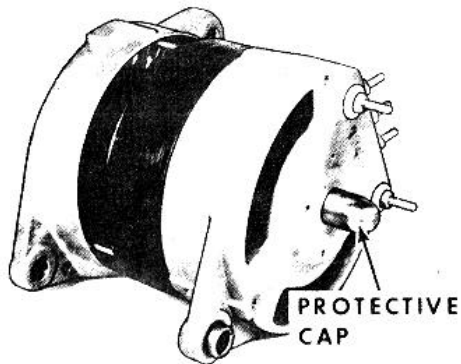

FIG. 26
16. Install the slip ring housing assembly over the rotor and drive end housing assembly. (Refer to Figure 26.)